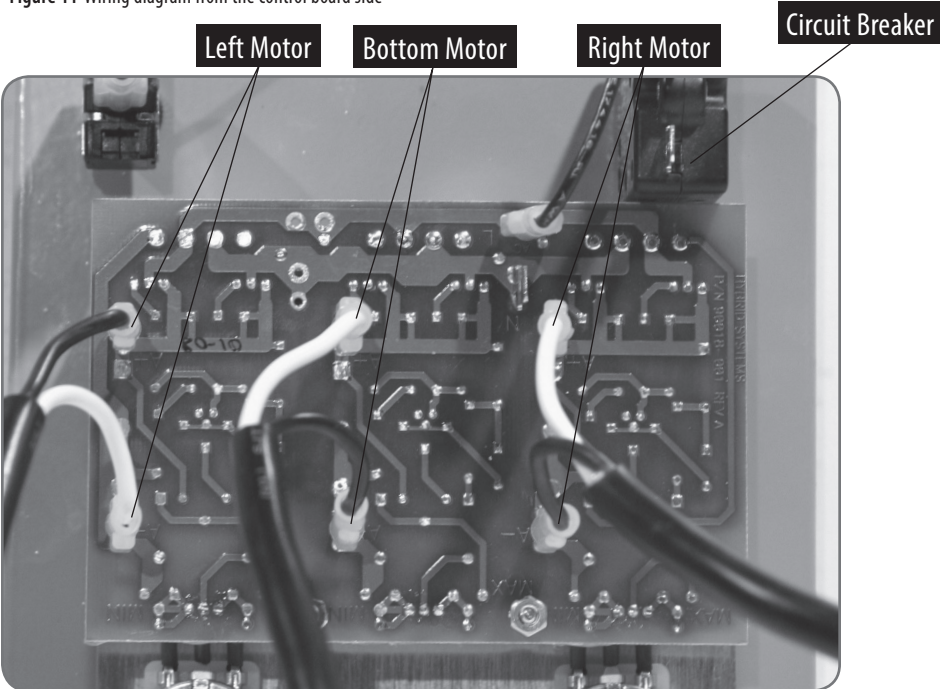
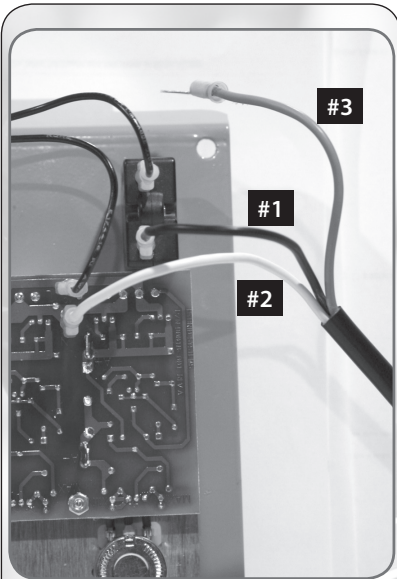

Figure 12 Wiring diagram for all three motors.
Figure 13
3. Remove four screws holding controller into main casting. Note the position of the motor wires on the controller, then disconnect the wires. See Figure 12 on page 12.
- 2. Remove four screws holding controller faceplate into main casting. Note the position of the main power and motor wires on the controller, then disconnect the wires. See Figure 12 on page 12 for the three motor wires. See Figure 13 on page 12 for the main power cord wires.
Be sure wires are correctly reinstalled. Motor wire connectors are different sizes. Be sure they are installed on the correct size terminal. See Figure 10 for the motor wires and Figure 13 for the power cord wire.